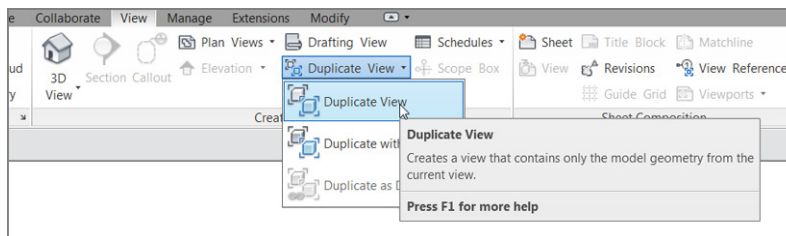

FIGURE 21.3: Duplicating the view
6. Make sure you're in Level 1. On the View tab, click Duplicate View > Duplicate View, as shown in Figure 21.3.